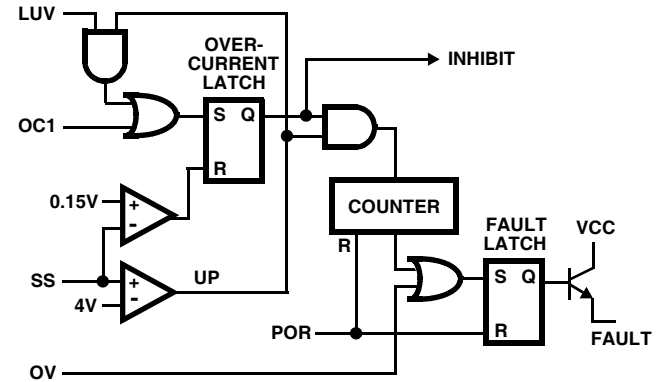

FIGURE 3. FAULT LOGIC - SIMPLIFIED SCHEMATIC
Figure 3 shows a simplified schematic of the fault logic. An over-voltage detected on VSEN1 immediately sets the fault latch. A sequence of three over-current fault signals also sets the fault latch. The over-current latch is set dependent upon the states of the over-current (OC), linear under-voltage (LUV) and the soft-start signals. A window comparator monitors the SS pin and indicates when C_{SS} is fully charged to 4V (UP signal). An under-voltage on either